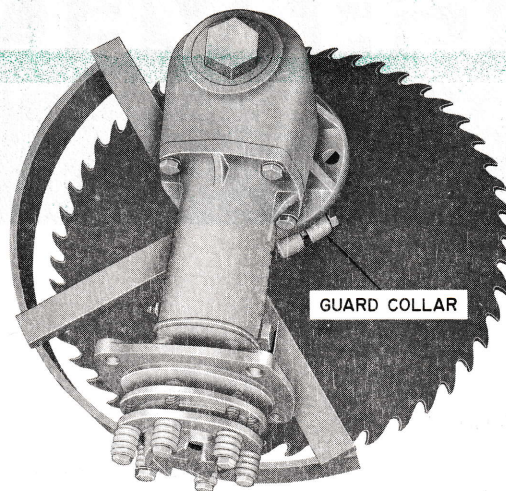

Figure 4
3. Place the saw blade on the shaft, being sure the teeth point clockwise, looking down as in Figure 4.